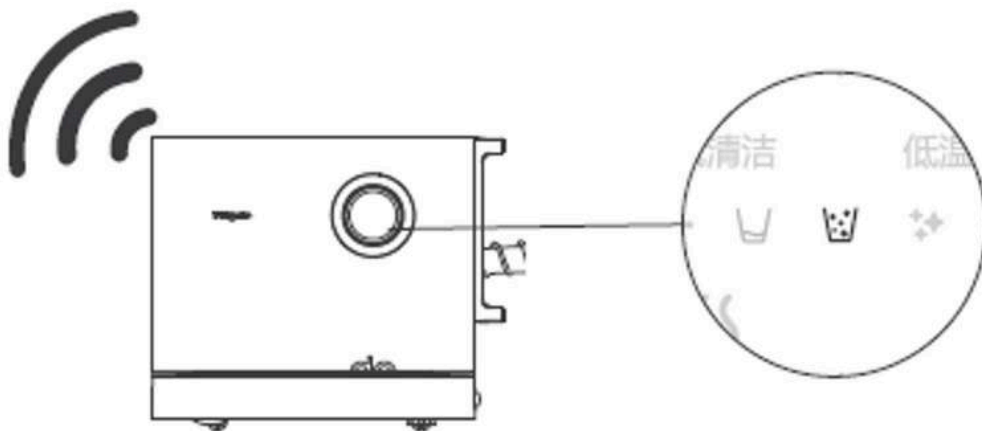

Fig. 18
1. The appliance will produce audio prompt and the full indicator of dirty water tank will flash if the dirty water tank is full of water, at that time, the dirty water tank needs to be drained (see Fig.18).